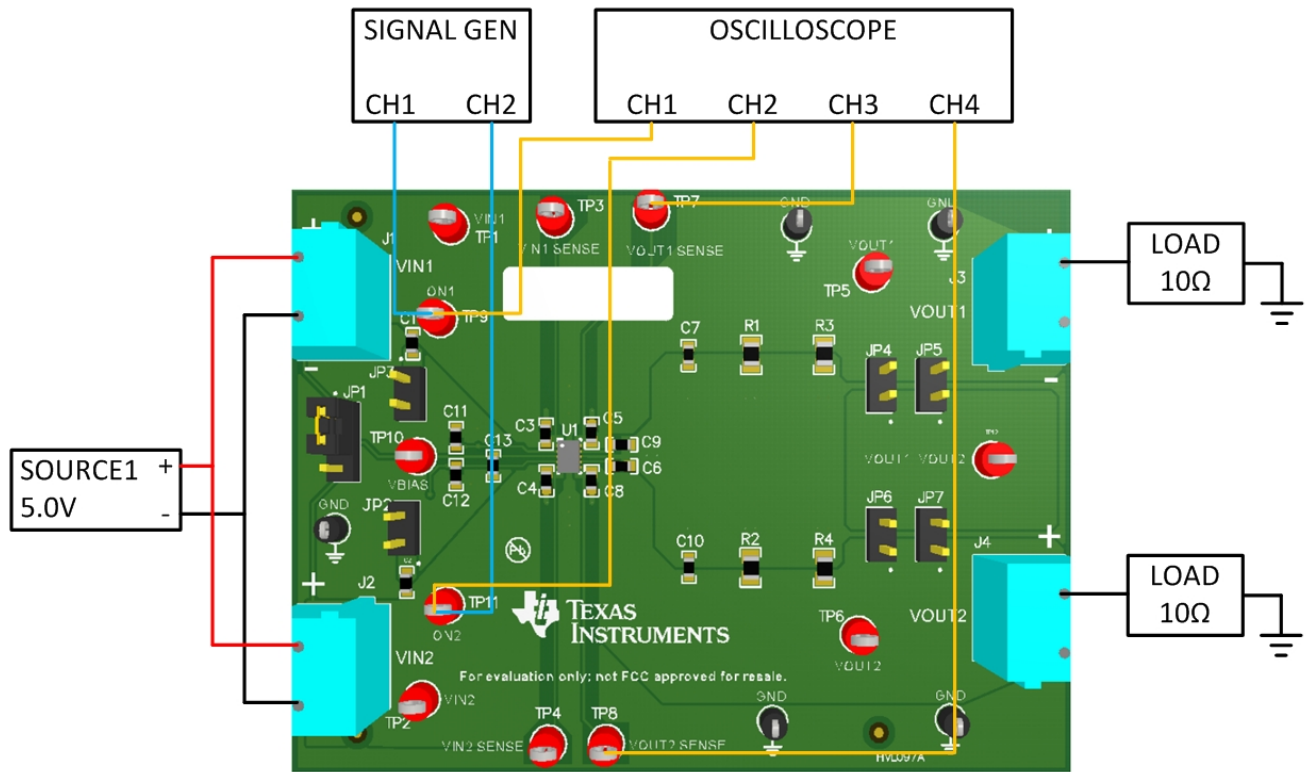

Figure 5. TPS22968Q1EVM / TPS22968NQ1EVM Recommended T_R Test Set Up
2. Set up the EVM per Figure 5